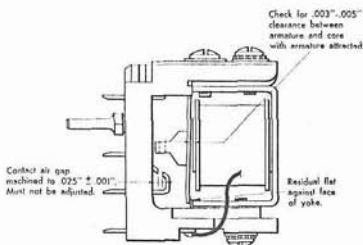

Figure 16
1. Figure 16. Contact air gap is machined to $.025" \pm .001"$ and should not be adjusted. Any attempt to change this gap will result in an out-of-parallel condition and prevent proper contact in all positions. Check for clearance of $.003"$ to $.005"$ between the armature and core with armature attracted. Adjustment for this clearance involves forming the center section of the armature. The residual must be flat against the face of the yoke, and the armature and core must be free of dirt or metal chips to insure good operation. Position the yoke to provide approximately $.050"$ travel at free end of armature. This is merely a starting point and may be changed to satisfy subsequent adjustments.